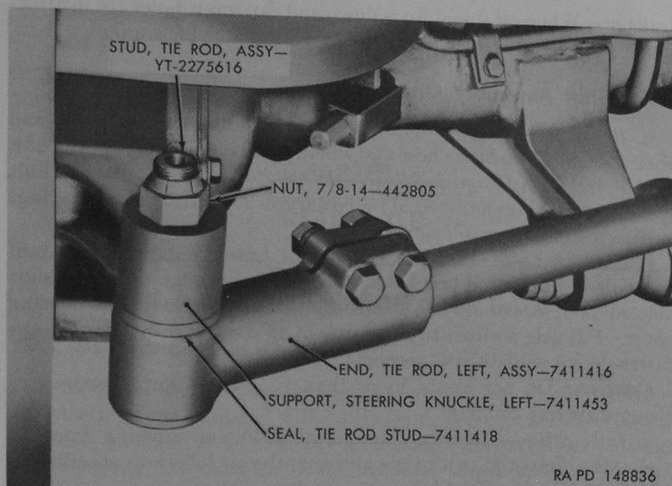

Figure 130. Steering tie rod—Rod installed.
b. Tie Rod Installation.—Be sure seal is placed over tapered stud, then insert tie rod end studs into tapered holes of arms on steering knuckle support. Install nut on each tie rod end stud and tighten to torque of 175 to 200 pound-feet (fig. 130).